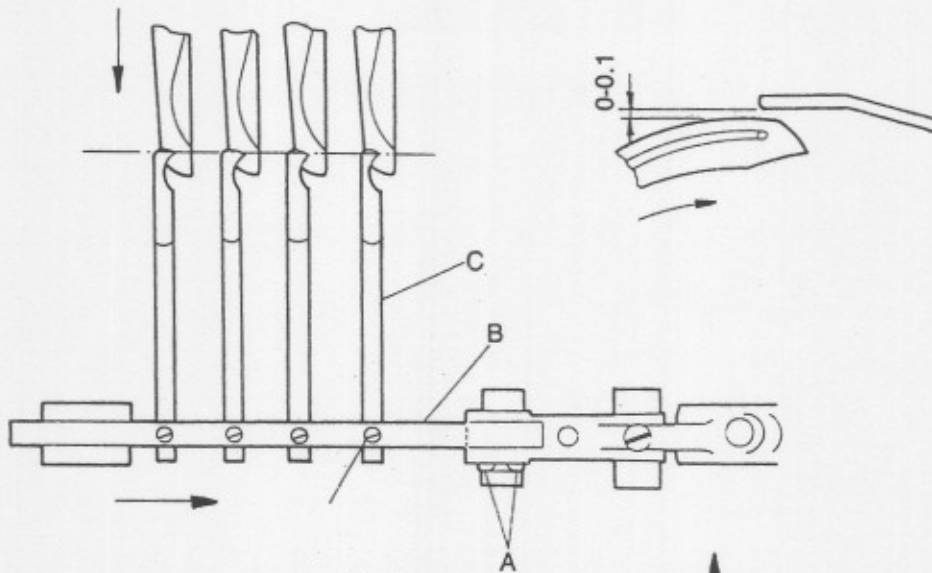

Fig 17
B. The position between looper and spreader, the correct position is that the right end of spreader locates toward right taking a distance 0.5mm from the center of looper, at the time when the spreader being at the extreme left position. The distance between spreader and looper is 0.1mm. Please refer to Fig. 17.
1. Loosen the retainer bar holder screw A in Fig 17. and after tighten it provisionally.
2. Rotating the pulley and keeping the spreader at the extreme left position, please adjust the position and distance between the looper and spreader. After the position and distance is decided, tighten the screw A in Fig. 17.